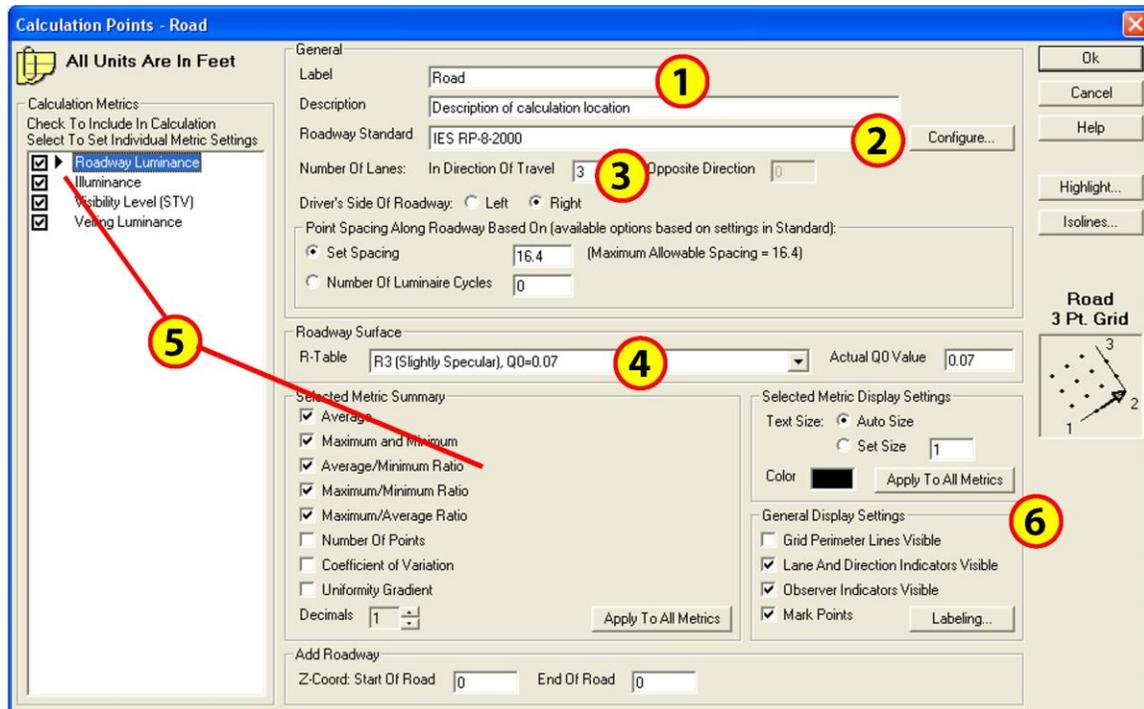

Figure 4 – The Calculation Points – Roadway dialog
*Each step references Figure 4 below*